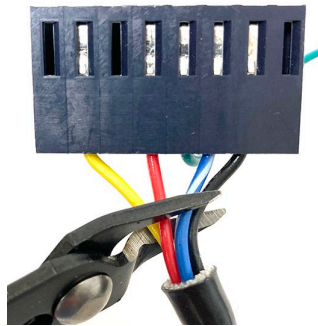

Figure 13
1. When connecting Capable Control Modules to an **OLD** GIVEG board, cut off **BOTH** connectors off **BOTH** 8075986 harness (see Figure 13 and 14).
1. When connecting Capable Control Modules to an **OLD** GIVEG board, cut off **BOTH** connectors off **BOTH** 8075987 harness (see Figures 13 and 14 above).